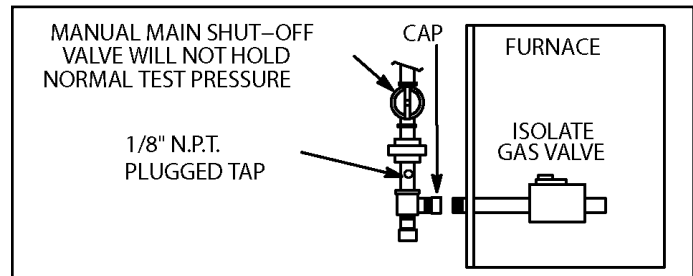

Figure 60.
5. A 1/8" N.P.T. plugged tap or pressure post is located on the gas valve to facilitate test gauge connection. See Figure 60.
When testing pressure of gas lines, gas valve must be disconnected and isolated. See figure 60. Gas valves can be damaged if subjected to pressures greater than 1/2 psig (3.48 kPa).